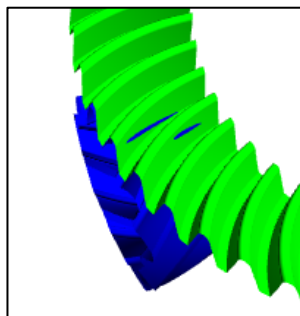

Figure 39. Tension side contact lines with modifications
5. Check the contact lines again. Now continue as described in points 5 to 7. The contact lines no longer touch the edges when rotated under load. This means the crowning and contact pattern position are therefore technically correct (see Figure 39).